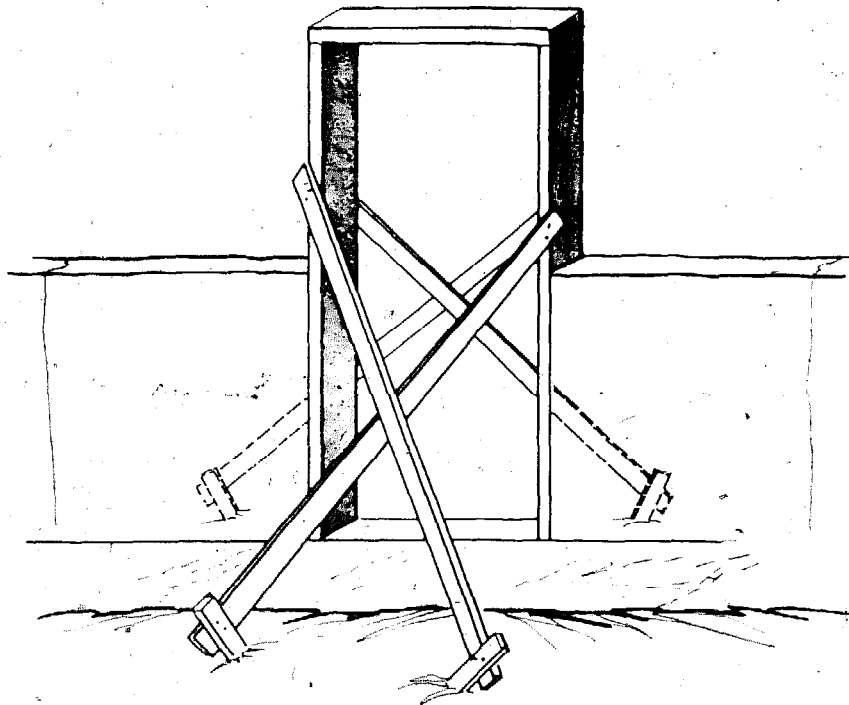

Figure 82.
*DOOR AND WINDOW OPENINGS*—Openings for doors and windows can be done two ways in rammed earth construction. One way is to set the door and window frames first and ram the earth around them. If this is done the frames should be solidly braced as shown in Figure 82 otherwise they will be forced out of place by the high pressures produced by ramming. Brace door and window frames across the diagonals also so the openings will remain square. Frames should be as wide as the walls and should have ties sticking into the wall to hold them firmly in place.